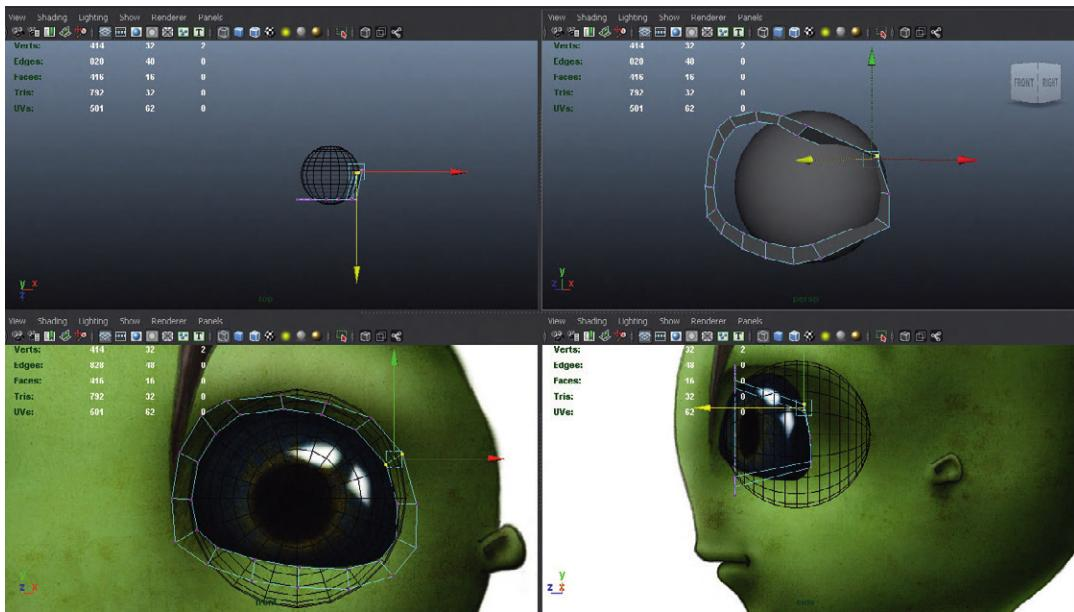

FIG 4.11 Moving vertices into place in three dimensions.
Step 23: Move pairs of vertices up to match the sketch and the eyeball. This takes a few steps. Make sure you are using a four-view layout (hit the Spacebar) and in the front View Panel, select a *pair* of vertices. Then, in the side View Panel, move the vertices only along the Z axis, so that they match the sketch (Fig. 4.11).